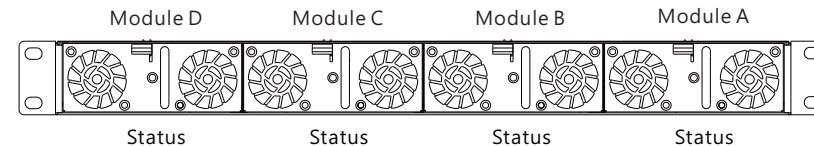

Figure 3-1 Installation of DHP-1UT-B(HV)
- Insert 1- 4 units of the NCP-3200 power supplies with identical output voltage and current into the DHP-1UT-B(HV) rack shelf (as illustrated in Figure 3-1)